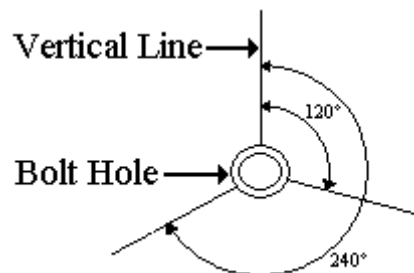

Figure 5
- A. Mark off a vertical line from the center of the bolt hole on the steel section or in a steel joint in the project material. Using a protractor, mark off additional lines at 120 degrees, and 240 degrees as shown in figure 5.